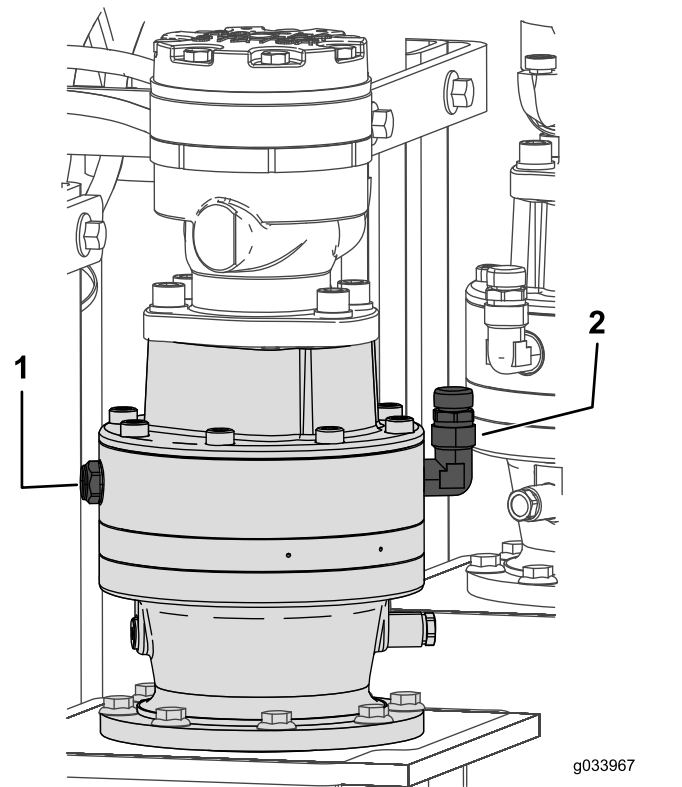

Figure 102
1. Check the oil level on the sight-glass on each stakedown planetary drive (Figure 102).
2. Remove the breather cap and add the oil into the planetary drive until the oil level on the sight-glass is at least half full (Figure 102).